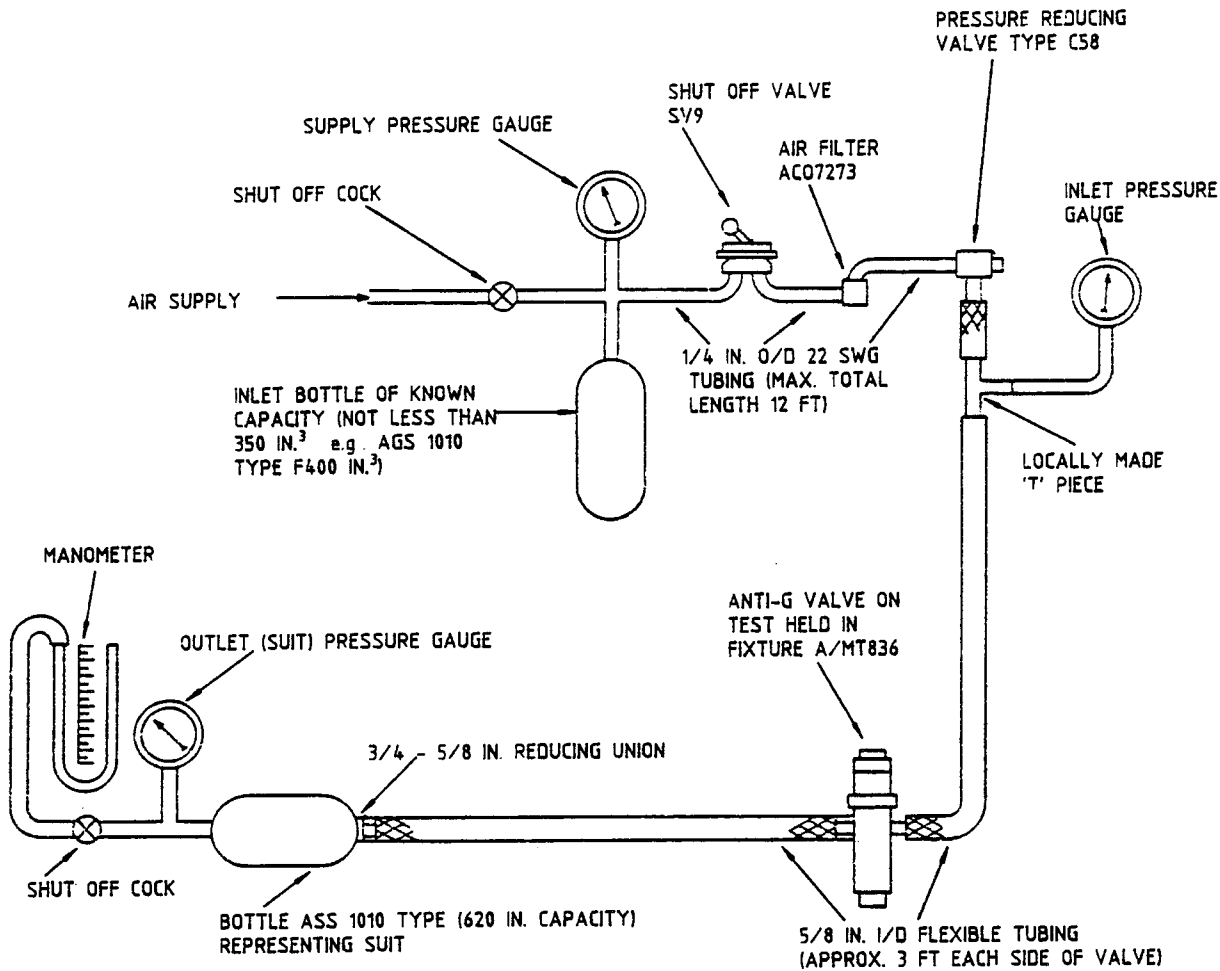

Fig 4 Test circuit
10.11 Connect the inlet connection to the test rig (Fig 4) and ensure that the valve is mounted vertical by placing a spirit level across the top of the body.
10.28 Connect the anti-g valve in the test rig (Fig 4) with the shut-off valve and the manometer stop cock closed. Ensure that the anti-g valve is vertical by placing a spirit level across the top of the valve body.
11 Paras 12 to 17 detail the tests required following dismantling, examination and assembling of the anti-g valve. A standard serviceability test consists of: Leakage test at 1g, calibration test, leakage test at 8g, cut-in and cut-out tests, inflation and deflation tests and test button check. A dynamic check is not required. During the following tests, connect the anti-g valve to the test rig (Fig 4) unless otherwise detailed and ensure that it is vertical by placing a spirit level across the top cover.
16.1 With the valve vertical and installed in the test circuit (Fig 4) ensure that the supply pressure in the test circuit is 140 to 200 lbf/in.². Rapidly apply, but without shock, the 1g carrier and four 1g weights (giving a total of 6g) and measure the time for the outlet (suit pressure) to reach 4.5 lbf/in.². The maximum time permitted is 3 seconds from the application of the load until the required pressure is reached with the supply pressure falling to 140 lbf/in.².
17 With the valve in the test rig (Fig 4), and the pressure reducing valve controlling at 20 lbf/in.², depress the test button to its limit. Repeat three times, and on each release the button must return freely and allow suit pressure to exhaust.